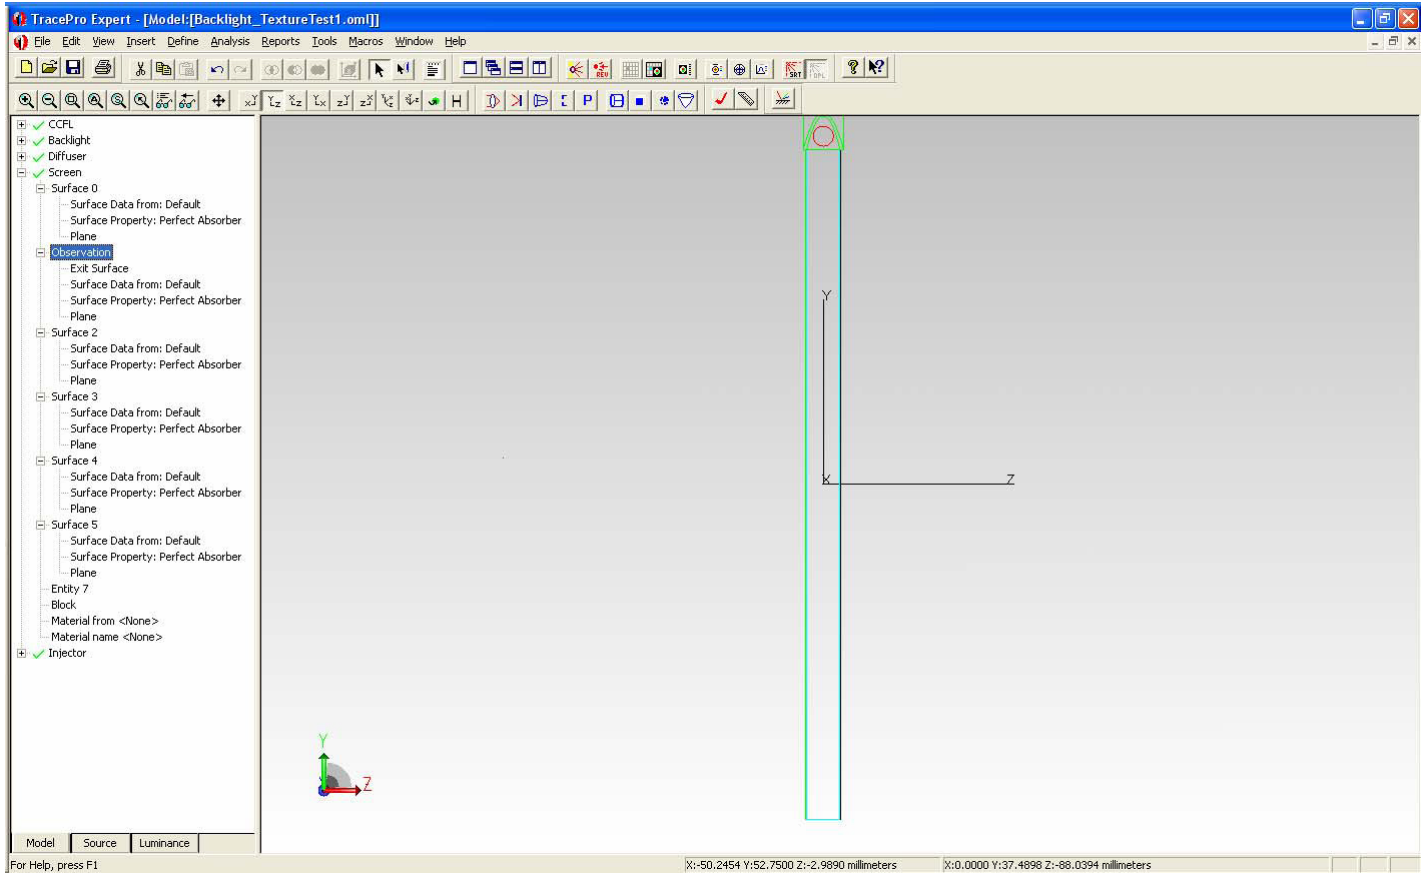

Figure 19. System Tree for the surfaces of the Screen.
16. As per Fig. 19, inspect the System Tree such that the properties for Screen are as shown (Note: Fig. 19 also shows all of the other objects that we will define in this section.)